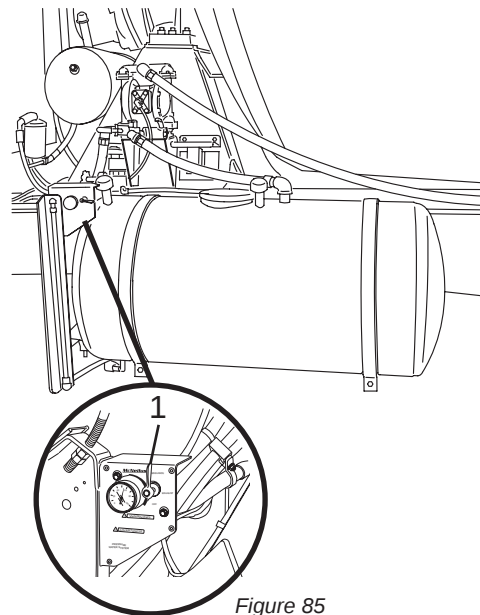

Figure 85
4. Turn the air pressure control valve (Figure 85, Item 1) to the PRESSURIZE position to start the pump.
To stop the pump, turn the air pressure control valve (Figure 85, Item 1) to the OFF position.